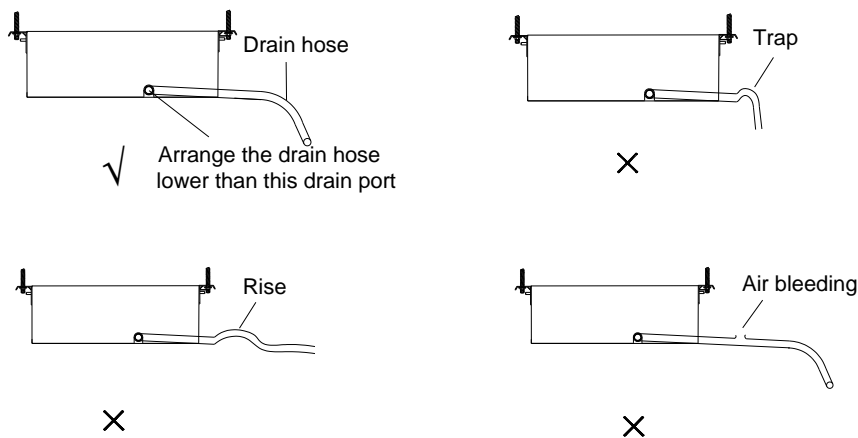

Figure 3-1-7
- (1) Install the drain hose with downward gradient (1/50 to 1/100) and no risers or traps are used for the hose. (Figure 3-1-7)
- (2) Be sure there is no crack or leak on the drain hose to avoid the formation of air pocket. (Figure 3-1-7)